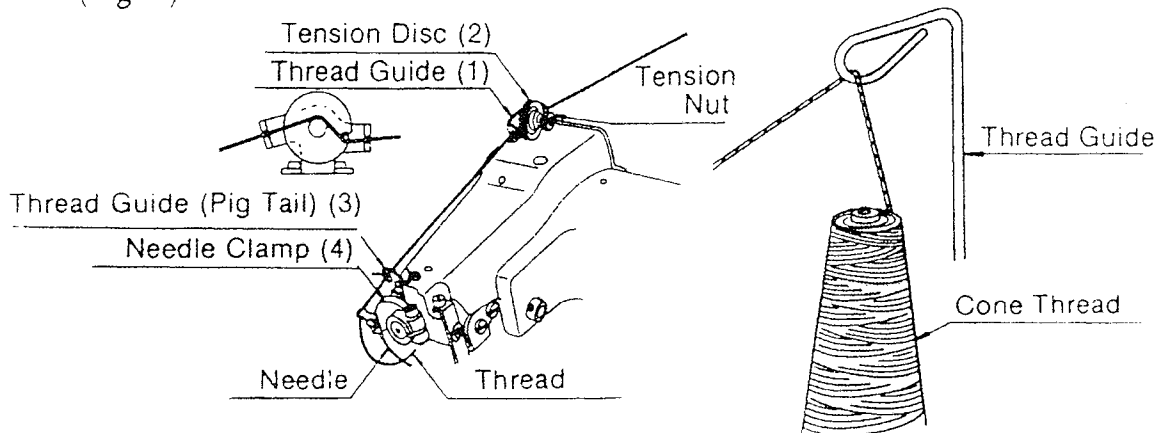

Fig. 9
#### 5. Threading Machine (Figs. 9—12)
A. When using sewing thread from a cone, place it over plastic cup on thread stand (Fig. 9)
C. For correct threading of machine, follow carefully course of thread as shown on Fig. 9.
When reaching to thread tension device, enter thread first in rear eye of thread guide (1). Then, lead thread between the two tension discs (2) as per Fig. 9. Now enter it from behind through the front eye of thread guide. Lead thread forward to front of machine. Enter thread from above into thread guide (3), and eyelet of needle clamp (4).